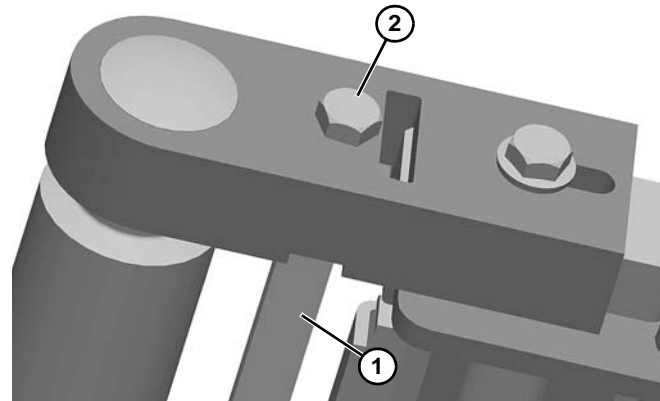

Figure 6
3. On the same side of the conveyor, using a wrench to hold the hex bar (**Figure 6, item 1**) underneath, remove the M6 screw (**Figure 6, item 2**).